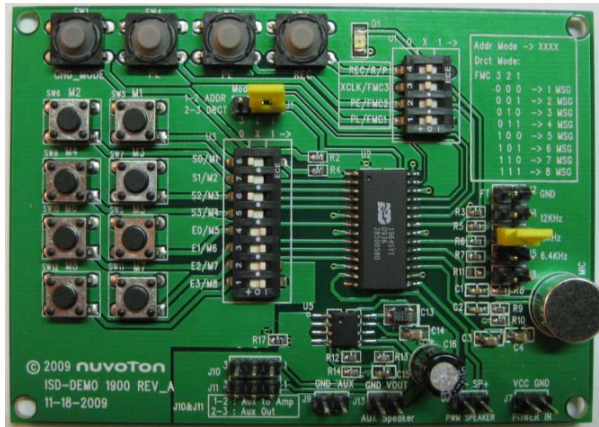

Figure 4 – Address Mode Settings
- Address Mode jumper/switches settings (shown in Figure 4):
- o Install jumper to choose sampling frequency. In Figure 4, 8 KHz sampling frequency is chosen.